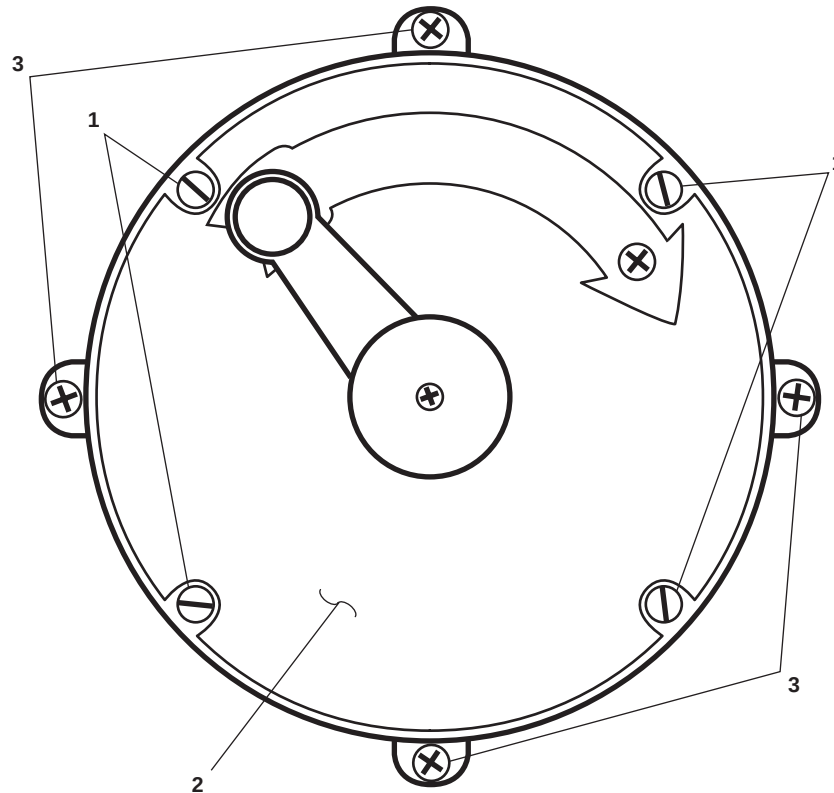
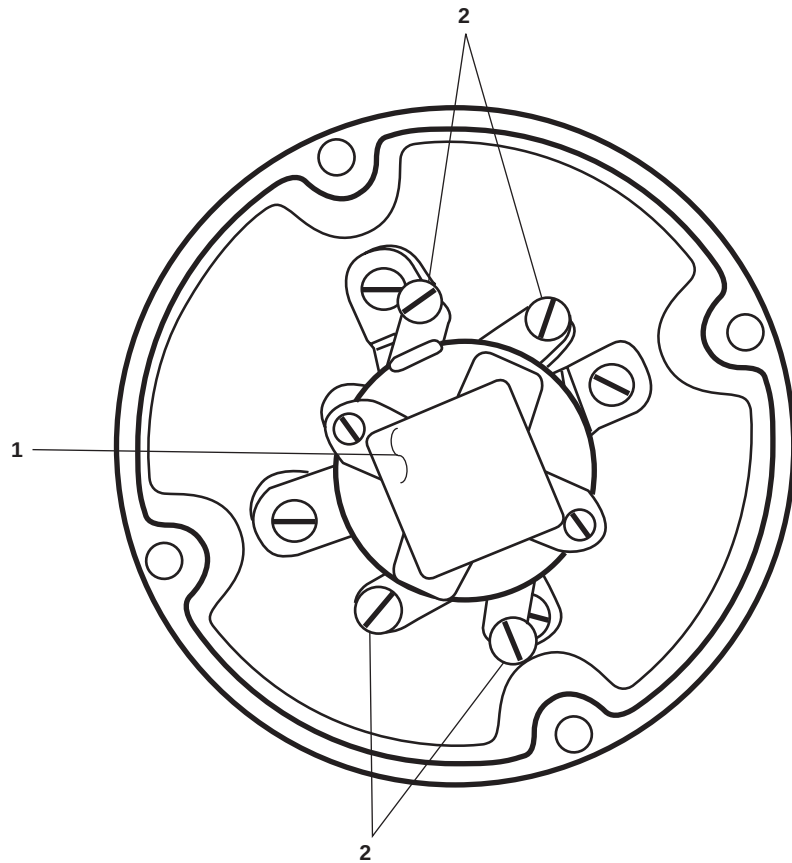

Figure 3. Contactor Switch Cover
Figure 4. Contactor Terminal
1. Remove the four screws (figure 3, item 1) that secure the contactor switch cover (figure 3, item 2). Remove the contactor switch cover.
2. Turn the contactor switch cover (figure 3, item 2) over to reveal the internal electrical components (figure 4, item 1).
3. Use a multimeter to check for voltage at the terminals (figure 4, item 2). If voltage is present, ensure that the proper circuit breaker is set to OFF, locked out, and tagged out (FM 55-502). If no voltage is present, continue with the procedure.
4. Label and remove the wiring from the terminals (figure 4, item 2) on the contactor switch.
6. Remove the four screws (figure 3, item 3) that secure the contactor switch assembly. Remove the contactor switch assembly from the bulkhead.
1. Install the contactor switch assembly to the bulkhead, securing it with the four screws (figure 3, item 3).
3. Install the contactor switch cover (figure 3, item 2), securing it with the four screws (figure 3, item 1).